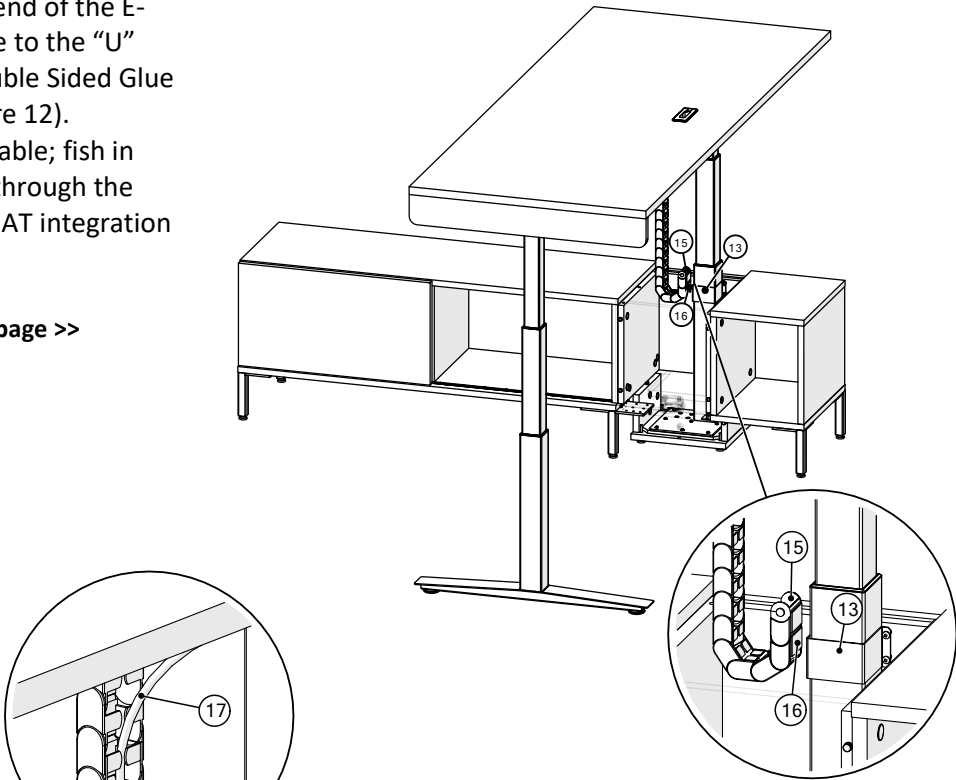

Figure 12
- 18. Attach the other end of the E-chain carrier cable to the “U” bracket using Double Sided Glue Foam Tape, (Figure 12).